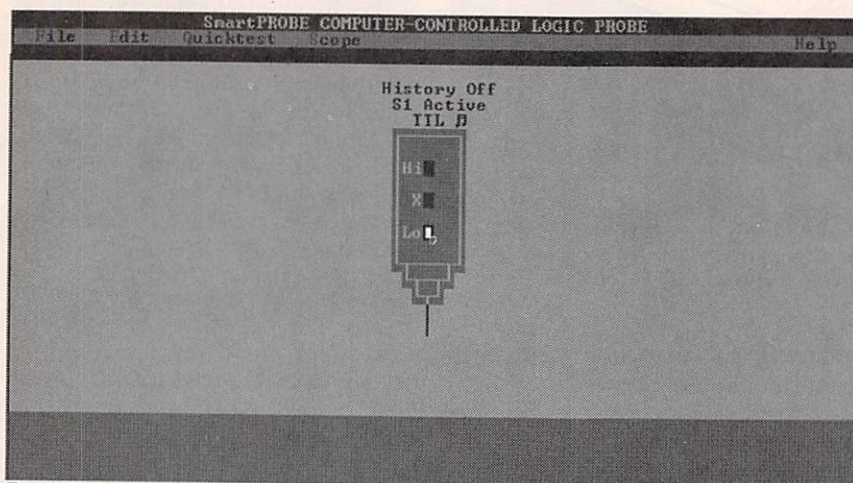
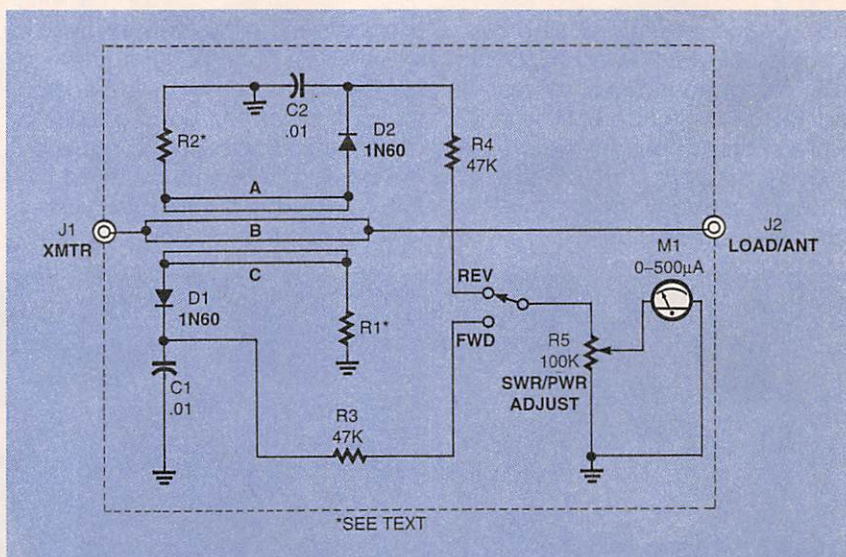

Fig. 5. The main screen of the SmartProbe software lets you easily choose the various settings and options.
Fig. 6. The monomatch RF wattmeter is one of the "instruments of choice" for hams and other users for measuring RF power in the HF and low VHF ranges.
Once you see a startup screen with some initial instructions, press any key. The instructions will be replaced by a graphical representation of a logic probe as shown in Fig. 5. Press <ALT> Q to perform a Quick Test. You should see a screen similar to the one shown in Fig. 6. Note that the SmartProbe's current status is to the right of the STATUS indication; expected results are listed in the lower half of the screen. Press S1 on the SmartProbe and notice that the switch indication changes from "0" to "1". Release S1 and the indication should return to "0". Hold the SmartProbe's tip against the wiper of the potentiometer and turn the potentiometer's shaft. The "P10 P11 P12 P13" indications should change to one of the five conditions listed under EXPECTED RESULTS. If you do not get one of those indications, check the unit for component, connection, or construction errors; fix any errors as needed.
Now that you've used the Quick Test function, let's quickly review the other four menu choices (File, Edit, Scope, and Help) available from the main screen (Fig. 5). The File menu (accessed by pressing <ALT> F) contains the DOS Shell and Exit commands. Pressing S for DOS Shell temporarily brings you to a DOS prompt where you can perform normal DOS functions. Type EXIT and press <ENTER> to exit the DOS shell and return to the pro-
**Micromatch Bridge.** Figure 5 shows the basic capacitor-resistor micro-match-bridge circuit. Immediately we see that the micromatch is better for those applications than a conventional Wheatstone bridge because it only places a 1-ohm resistor
**Monomatch Bridge.** The monomatch bridge of Fig. 6 is one of the "instruments of choice" for hams and other users for measuring RF power in the HF and low VHF ranges. In the monomatch design, the transmission line is segment "B", while the directional coupler transmission line segments are "A" and "C". The directional coupler lines are used for sampling the forward and reverse RF signals. Although some instruments used modified coaxial transmission lines, later versions use PC-board elements for A, B and C.
The particular version shown in Fig. 6 uses a single DC meter movement to monitor RF power. With the addition of the switch and potentiometer R5, the circuit becomes both an SWR meter and a forward/reverse RF-power meter. Many modern instruments use two meter movements, one each for forward and reverse power.